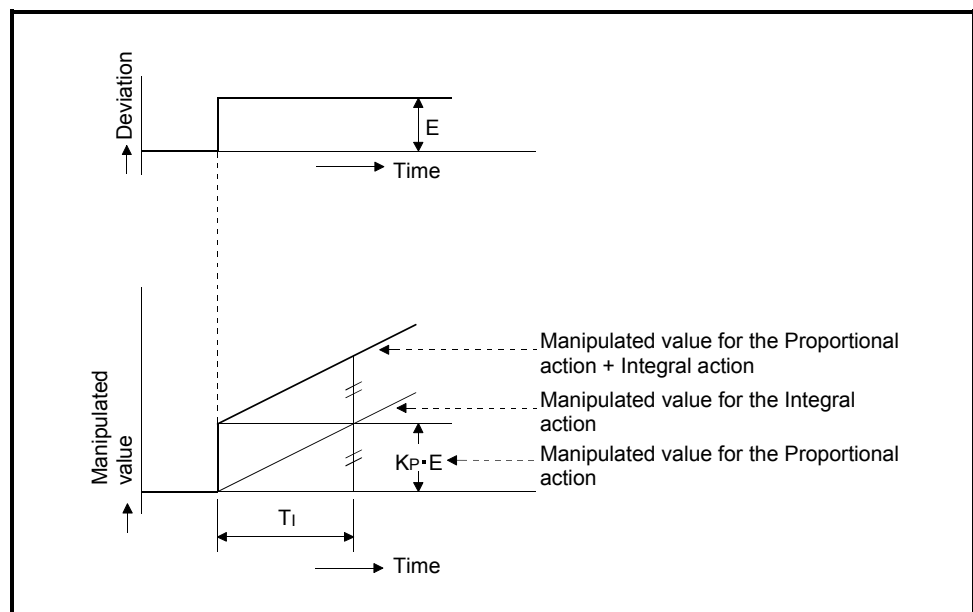

Fig. 1.10 Integral action for step response
- (2) In the integral action, the time from the deviation occurrence until the manipulation value of the integral action becomes that of the proportional control action is called the integral time, and is indicated by T_i .
- (3) The integral action for the step response when the error value is constant is shown in Figure 1.10.
- (4) The integral action is used as a PI action in combination with the proportional action, or PID action in combination with the proportional and derivative actions.